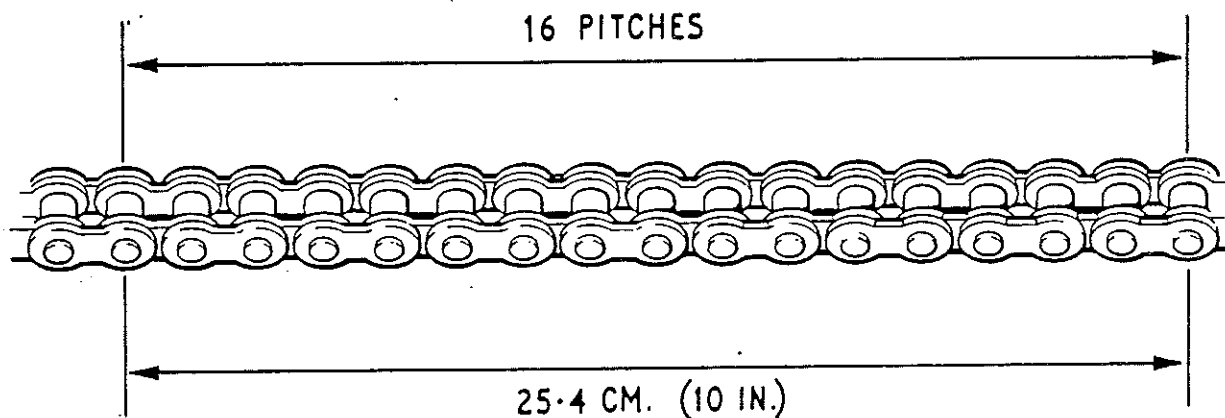
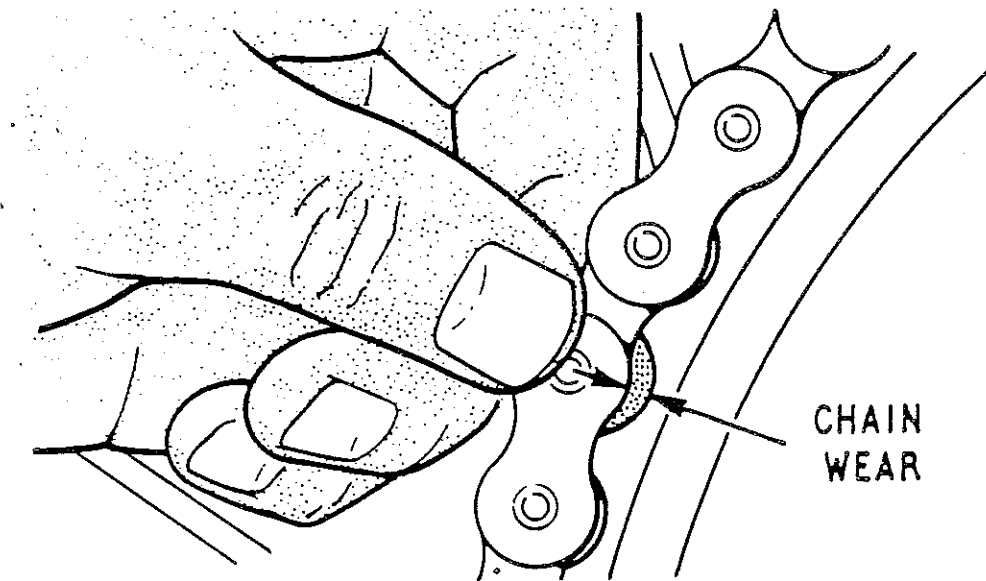

FIG. 5.1 CHAIN MEASUREMENT
FIG. 5.3 CHAIN WEAR
5.3 Chain Wear. To prevent rapid sprocket wear the chain should be checked for wear. If the chain can be lifted away from the sprocket, Fig. 5.3, the chain should be removed and measured, Fig. 5.1.